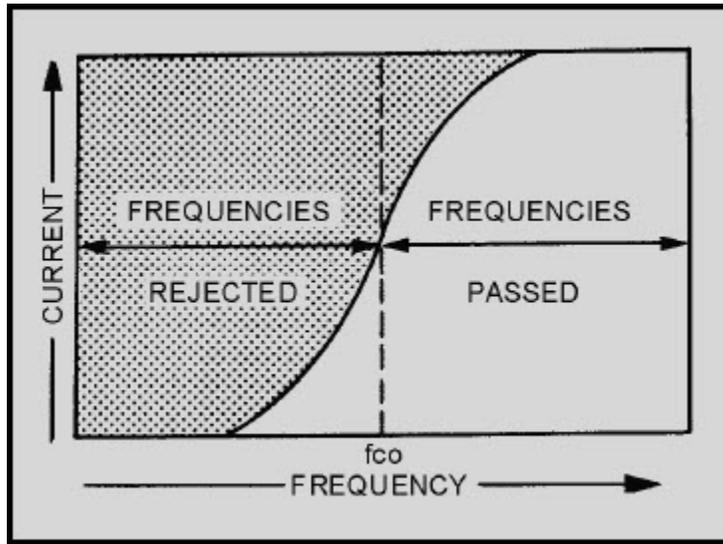

Figure 1-17 High-pass filter response curve
A high-pass filter circuit passes all currents having a frequency higher than a specified frequency, while opposing all currents having a frequency lower than its specified frequency. This is illustrated in figure 1-17. A capacitor that is used in series with the source of both high and low frequencies, as shown in view (A) of figure 1-18, will respond differently to high-frequency, low-frequency, and direct currents. It will offer little opposition to the passage of high-frequency currents, great opposition to the passage of low-frequency currents, and completely block direct currents. The value of the capacitor must be chosen so that it allows the passage of all currents having frequencies above the desired value, and opposes those having frequencies below the desired value. Then, in order to shunt the undesired low-frequency currents back to the source, an inductor is used, as shown in view (B). This inductor must have a value that will allow it to pass currents having frequencies below the frequency cutoff point, and reject currents having frequencies above the frequency cutoff point, thus forcing them to pass through the capacitor. By combining inductance and capacitance, as shown in view (C), you obtain the simplest type of high-pass filter. At point P most of the high-frequency energy is passed on to the load by the capacitor, and most of the low-frequency energy is shunted back to the source through the inductor.